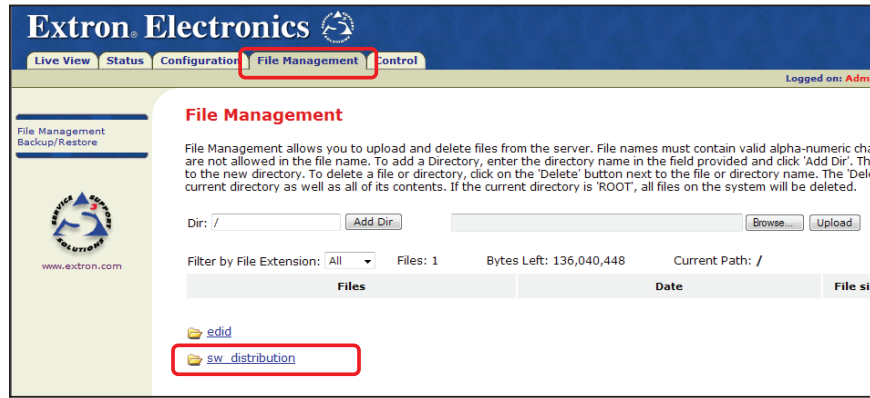

Figure 31. Select SW Distribution
2. Select the **File Management** tab, then select **SW_Distribution** (see figure 31).